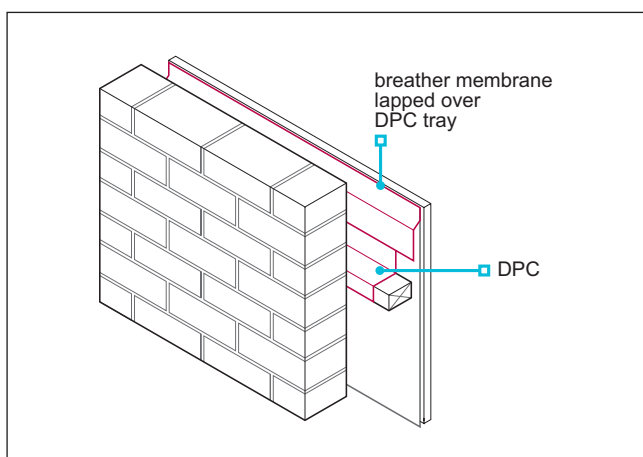

Figure 3 - Horizontal timber cavity barrier
- Horizontal timber cavity barriers - Horizontal timber cavity barriers, except under eaves, should be protected with a DPC arranged to shed moisture away from the sheathing, with a 100mm upstand lapped behind the breather membrane. See Figure 3.